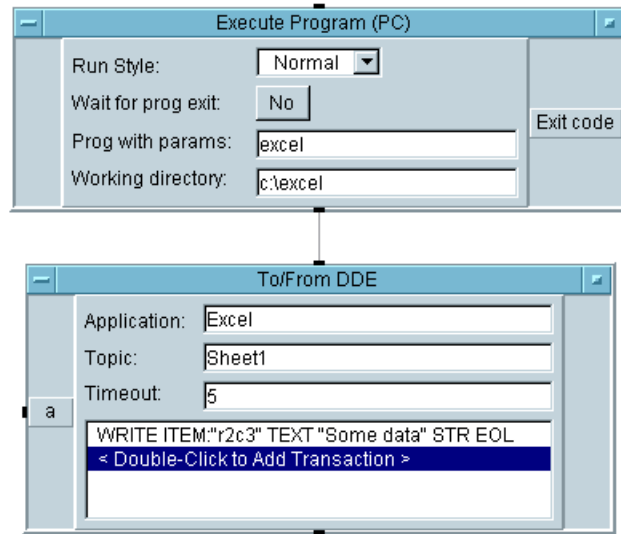

Figure 4-30. Execute PC before To/From DDE
If the executable file's directory is not in your `PATH`, use an `Execute Program (PC)` object before the `To/From DDE` object to run the application program, as shown in Figure 4-30.